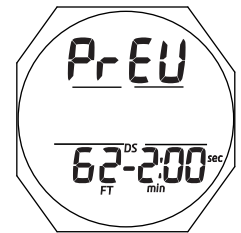

Fig. 71 - DS PREVIEW
**Deep Stop Preview**, information includes (Fig. 71):